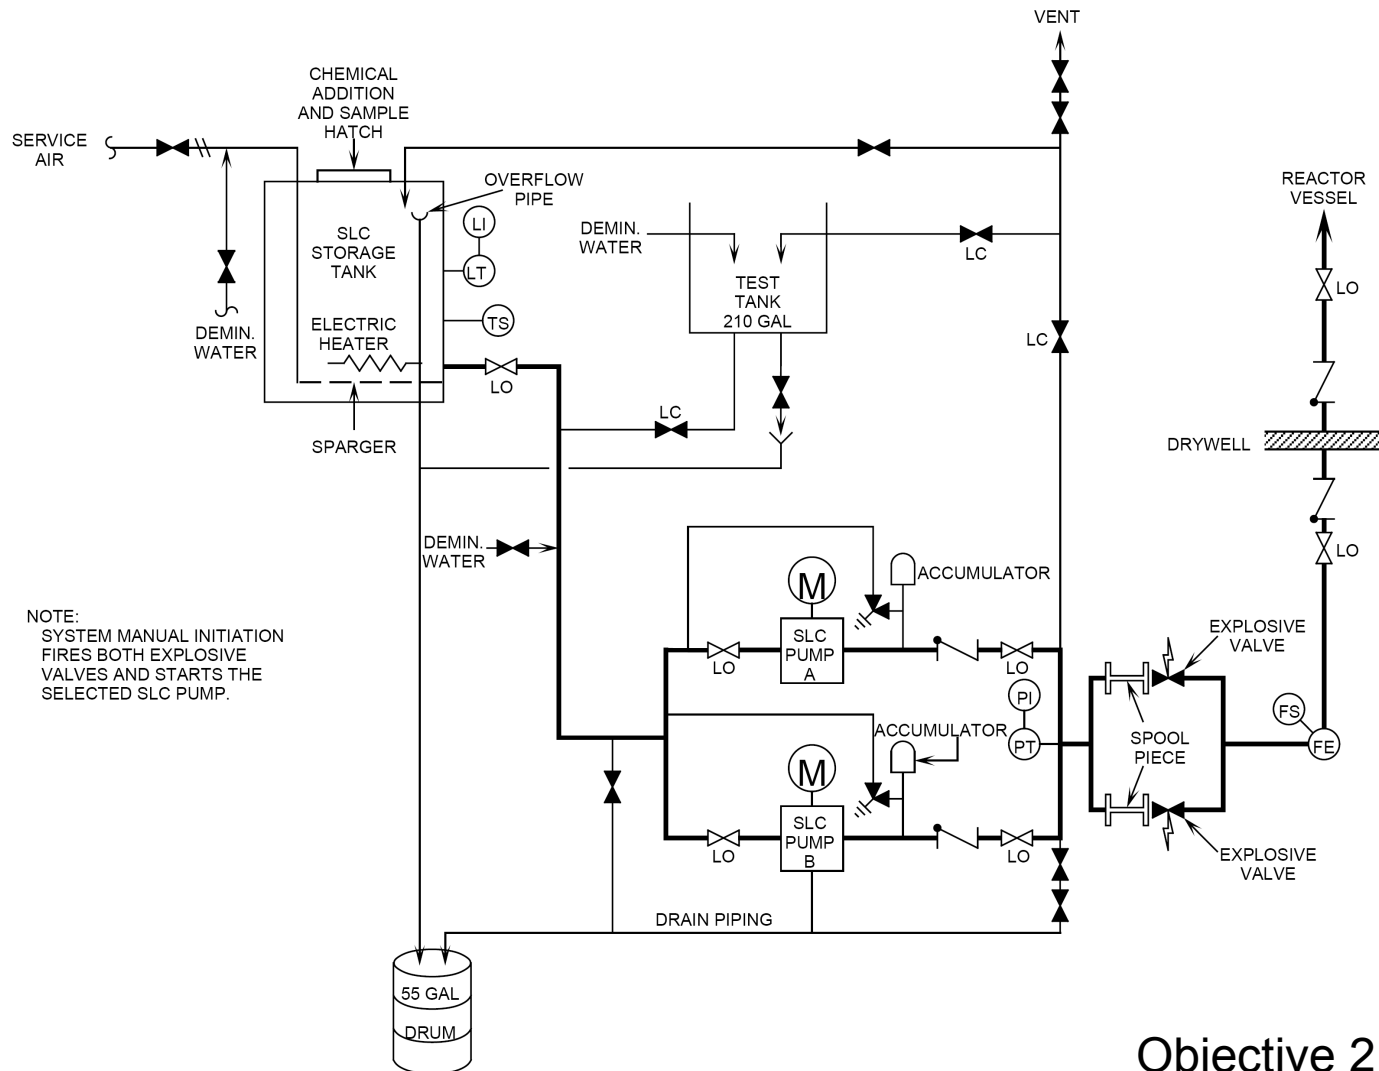

Figure 7.4-1 Standby Liquid Control System
- SLC system normal line up in Figure 7.4-1.